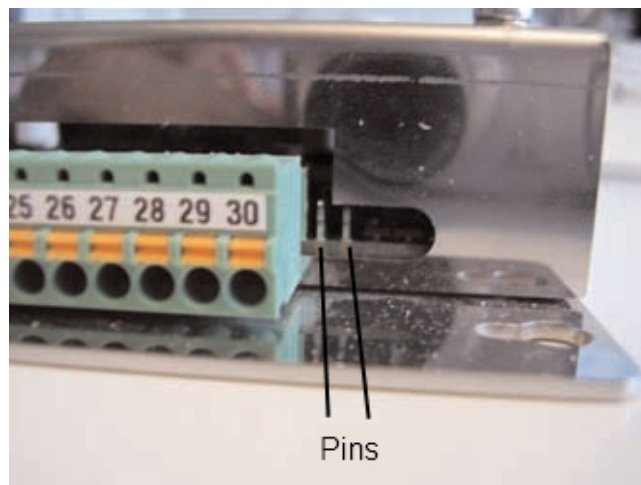

Figure 7.1.: Pins at the right hand side of the terminal block of PLVC41
- Connect the two pins at the right hand side of the terminal block of the case (figure 7.1) with a thin conductive object (e.g. a small screwdriver).